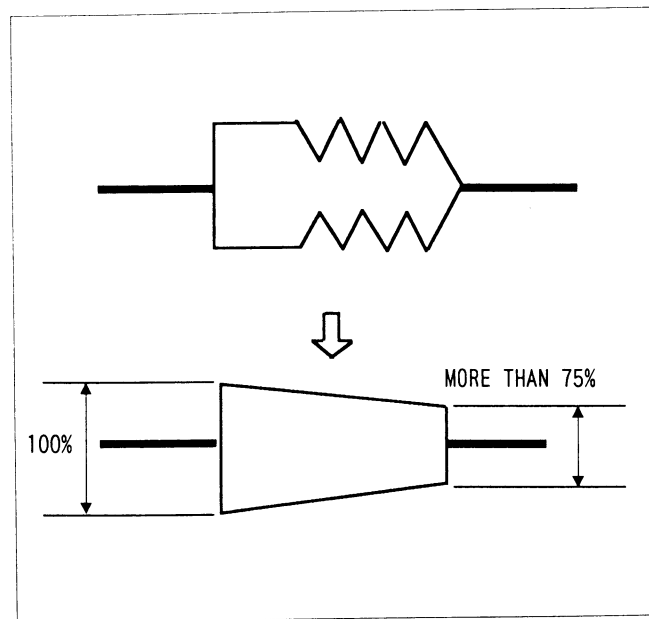

Fig. 1-7
In case of not being flat, adjust the waveform according to below method. (Fig. 1-7)
- 2) Make the Take up side waveform more than 75% by turning No.9 Guide every 90°. (Fig. 1-7)